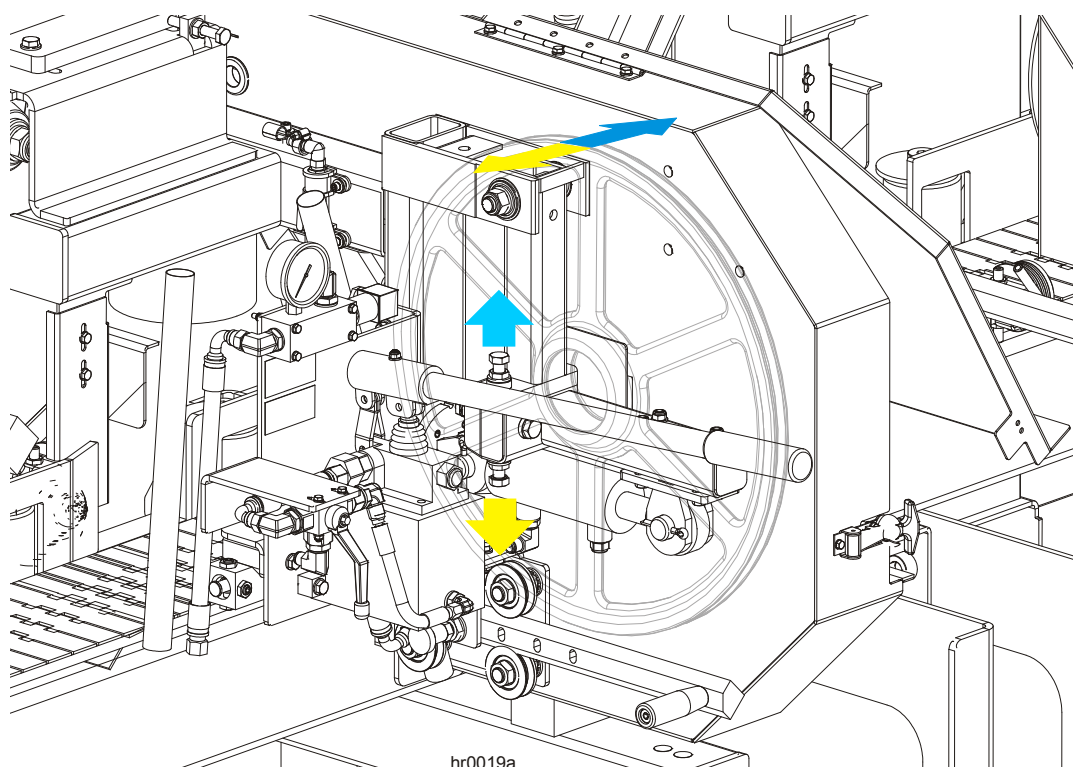

**FIG. 5-4**
**See Figure 5-4.** Use the vertical adjustment screws (marked with the blue and yellow arrows in the figure below) to adjust the drive-side blade wheel. Before adjusting the wheel, loosen the drive belt using the adjustment bolts marked with the orange arrows in the figure. Loosen the jam nut and the hex socket head screw marked with the red arrow in the figure and adjust the wheel with the vertical adjustment screws. To tilt the wheel down, loosen the top adjustment screw one quarter turn. Loosen the jam nut on the bottom adjustment screw and tighten the screw. Tighten the top and bottom jam nuts. To tilt the wheel up, loosen the bottom adjustment screw one quarter turn. Loosen the jam nut on the top adjustment screw and tighten the screw. Tighten the top and bottom jam nuts. Tension the drive belt properly (See Section 3.8).